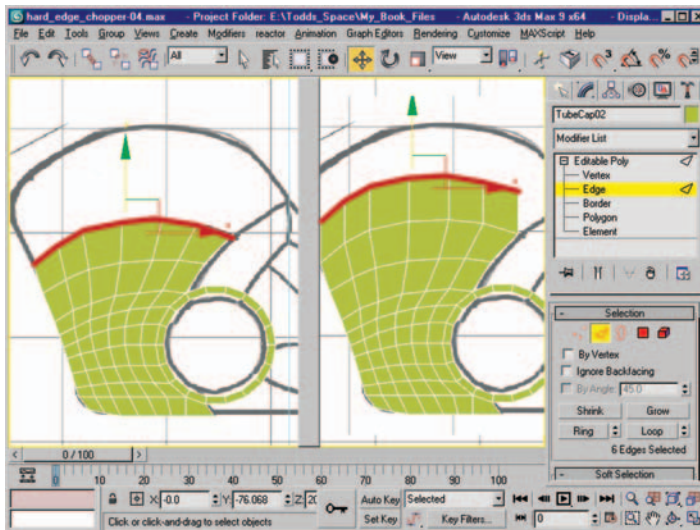

Figure 8.12 Edge selection (left) and resulting mesh after performing shift-drag (right).
13. Select the edges seen in Figure 8.12 and shift-drag them upward to continue building the body work of the bike. The next set of shift-drag will block in the overall shape of the fuel tank.